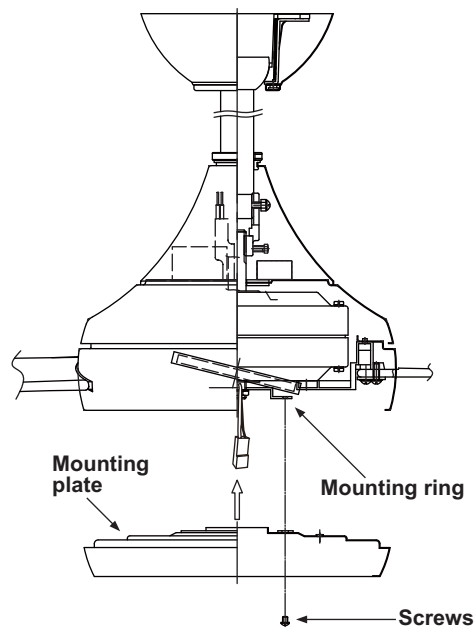

Figure 14
Step 2. Place the key holes on the mounting plate over the 2 screws previously loosened from the mounting ring, turn mounting plate until it locks in place at the narrow section of the key holes. Secure by tightening the 2 screws previously loosened and the one previously removed. (Fig. 14)